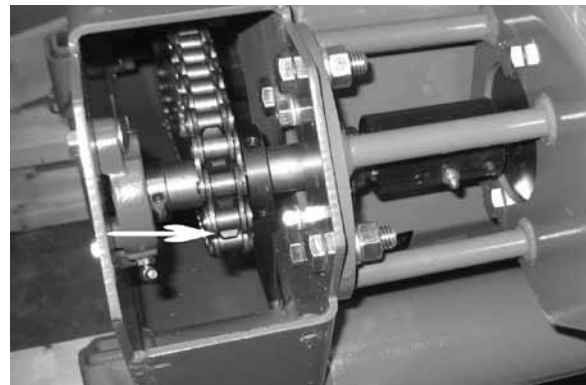

Figure 26
2. For each sprocket, measure from inside the fixed chain shield to the center of the chain (Figure 26).